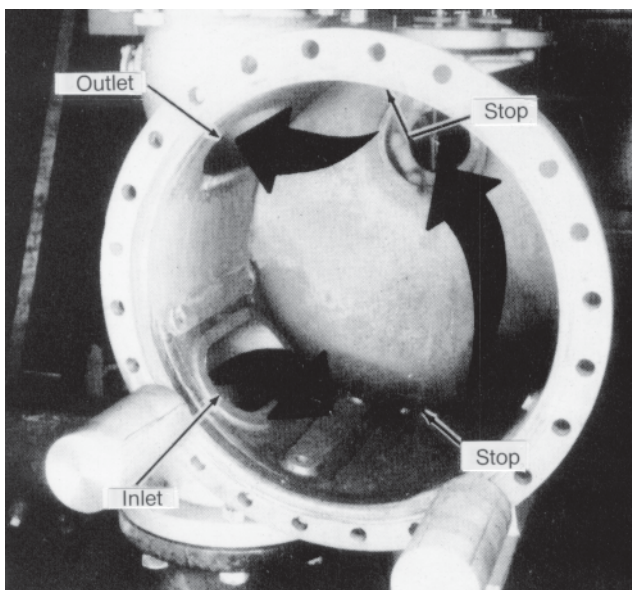

Figure 18 –Interior of Outer Housing
- Figure 18 shows the interior of the outer housing after the inner mechanism has been withdrawn.